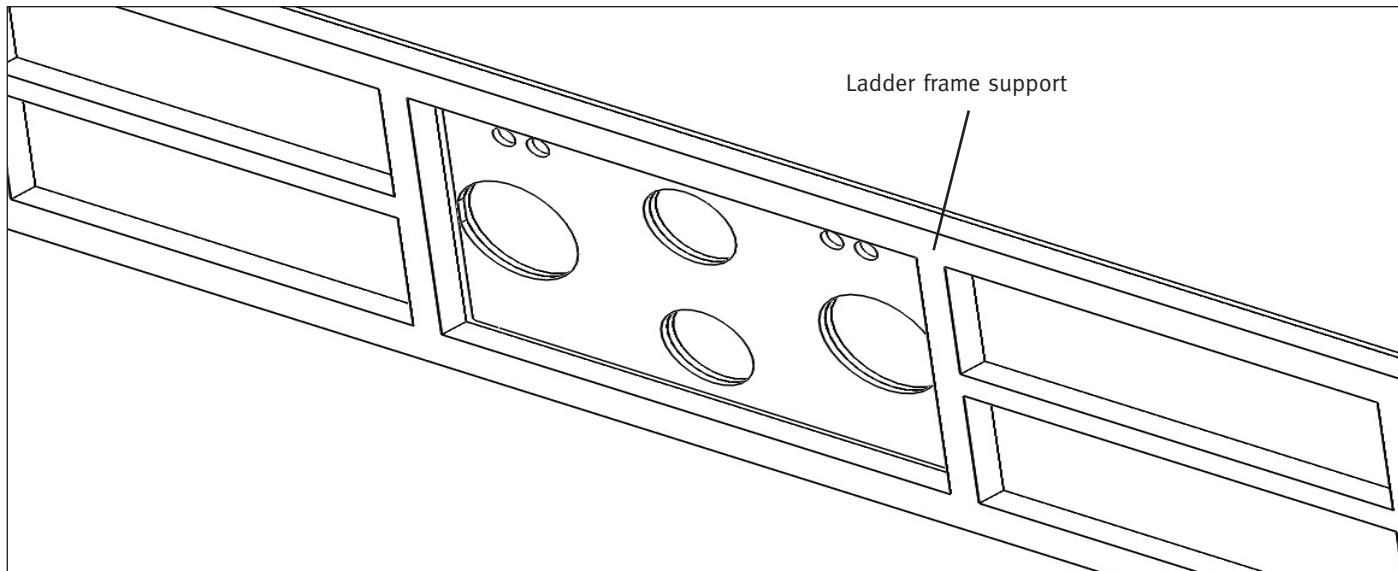

Fig. B3
- If the countertop is reinforced, a ladder frame must always be installed (fig. B3). For the correct dimensions of the ladder frame, please refer to the Solid Surface manufacturer's guidelines.